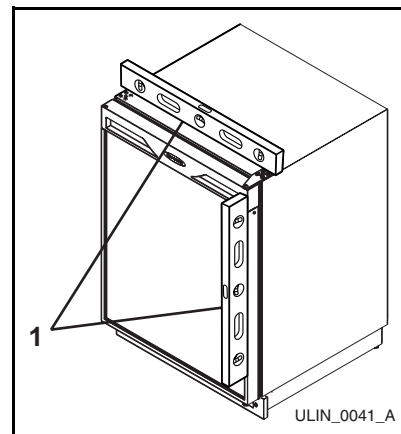

Figure 19
1. Use a level to check the levelness of the unit from front to back and from side to side. Level should be placed along top edge and side edge as shown (**Figure 19**).